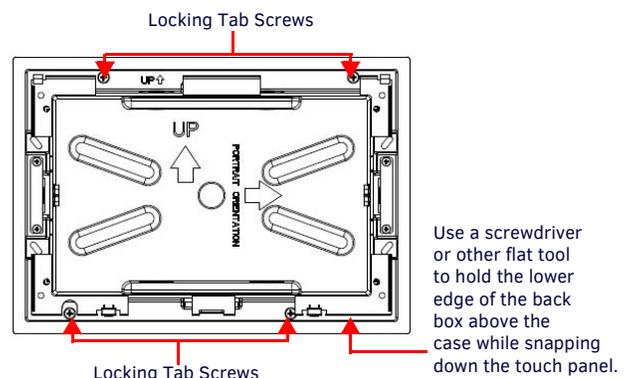

FIG. 4 LOCKING TAB LOCATION ON THE MXA-FMK-10 (LANDSCAPE)
4. Push the Flush Mount Kit flat into the mounting surface and secure with the locking tabs (FIG. 4). In order to prevent damage to the touch panel, make sure that any screws used are flush with the Flush Mount Kit, and the Flush Mount Kit goes freely into the opening.